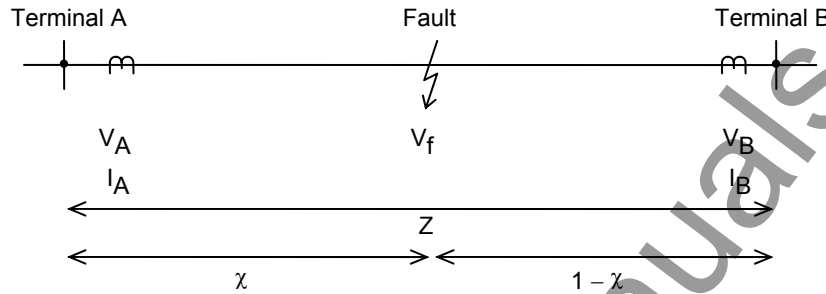

Figure 2.13.2.1 Two-terminal Model
In the case of a two-terminal line as shown in Figure 2.13.2.1, the relationship between the voltages at the local and remote terminals and the voltage at the fault point are expressed by Equations (1) and (2).